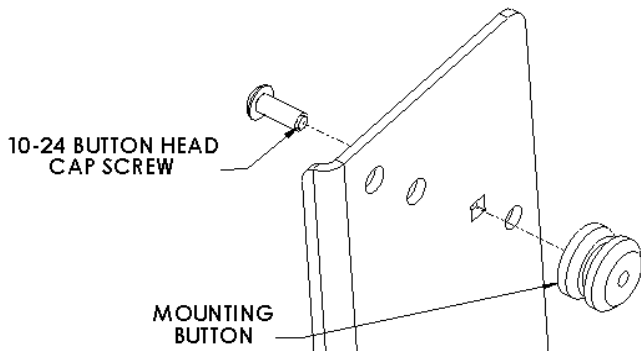
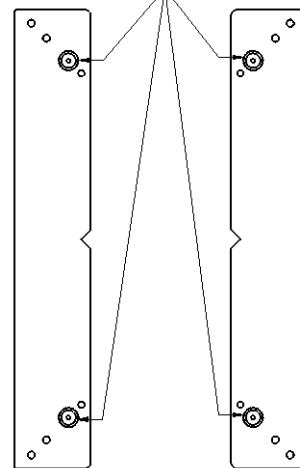

Figure 5. Mounting Button Attachment
Figure 6. Mounting Button Location
1. Using a 10-24 button head cap screw inserted from the backside of the bracket (see Figure 5), secure the mounting button with the chamfered hole of mounting button (larger surface) facing the bracket (see Figure 6).